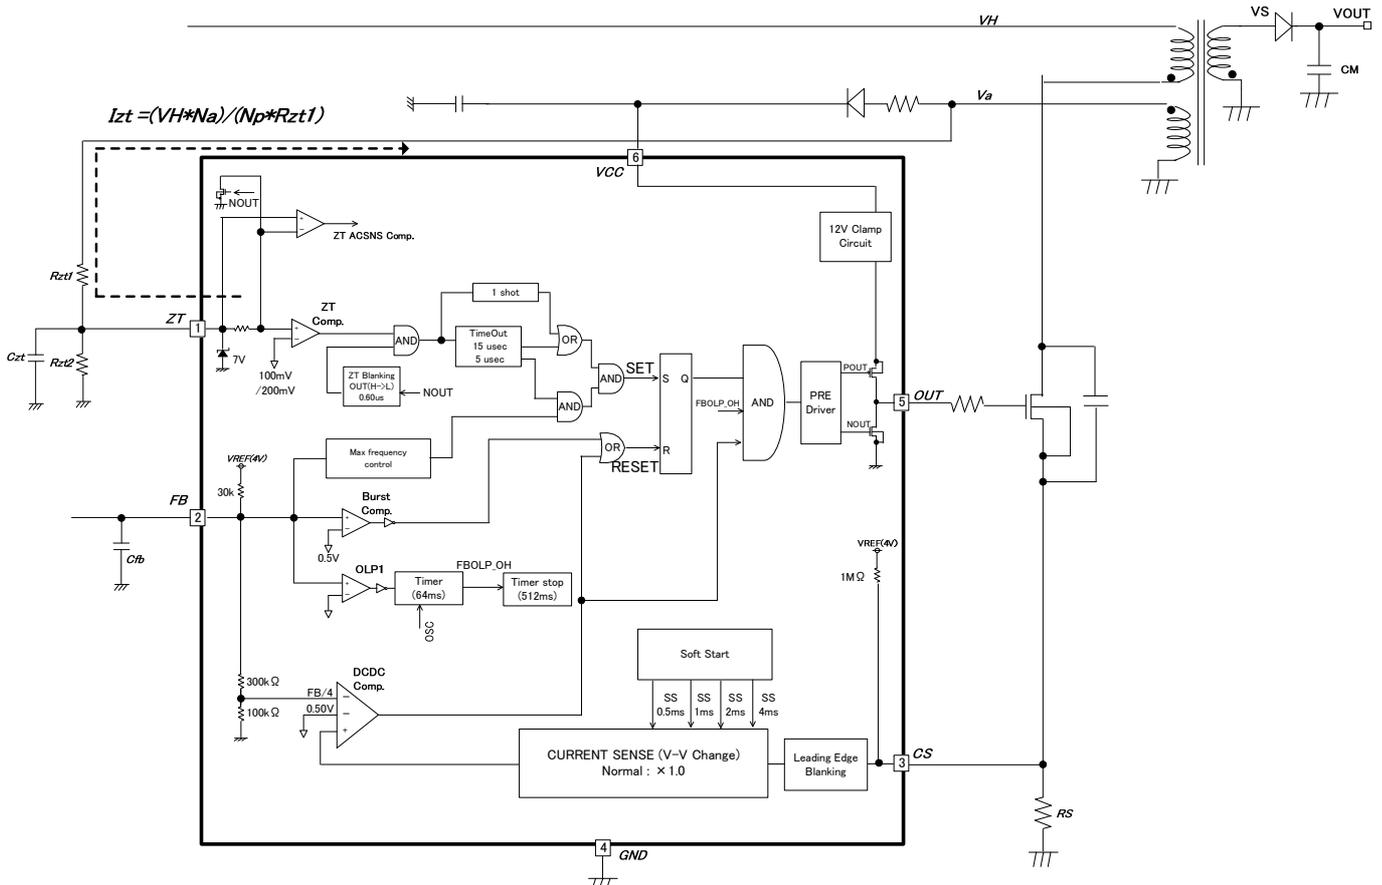
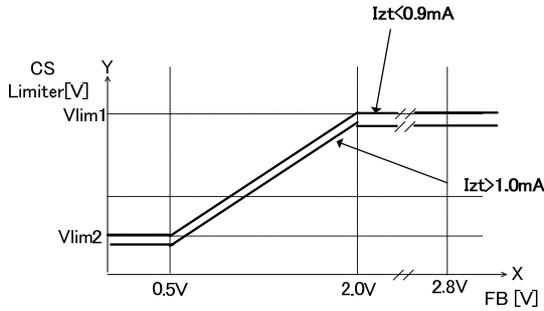

Figure 18. CS over Current Detection Switched ZT current block diagram
Figure 19. FB pin Voltage vs. CS pin Voltage Characteristics
If the input voltage (VH) becomes higher, the slope of L current raises. The switching has a constant delay time, so the maximum allowable power increases for a constant over current limiter depending AC voltage. For this countermeasure, this IC switches the internal over current protection function monitoring the input voltage. In case of high voltage (AC230V), it is needed to set the over current comparator to normal 0.7 times. The IC detects by monitoring the ZT inflow current and switching. When the MOSFET is turns ON, Va becomes minus voltage depending on the input voltage (VH). The ZT pin (1pin) cramps near 0V internal the IC. The way to determine Rzt1, Rzt2 and Cz1 is below. The block diagram is shown in Figure 18. The graph is also shown in Figure 19 and 20.